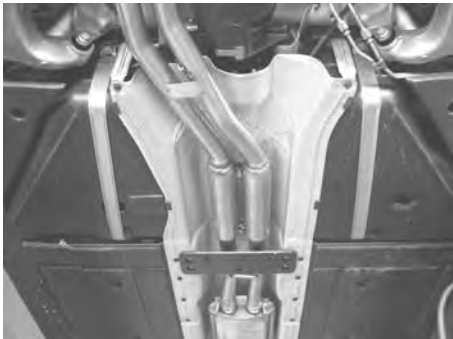

Figure 8
3. Place a clamp over each expanded end of the center muffler assembly and place it into position as shown in figure 8 making sure to install the hanger into the rubber bracket. DO NOT tighten the clamps.